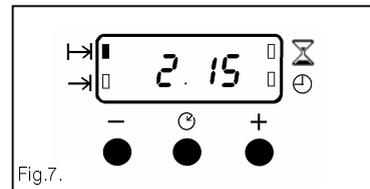

Fig.7.
- iv) To set the length of cooking time, press the Selector Control button until the 'Cook Time' indicator neon (⬅) is illuminated. Press the increase control (+) until the required length of cooking time is displayed, e.g. 2 hrs 15 mins as Fig. 7. If necessary depress the decrease control (-) until the correct time interval is achieved.